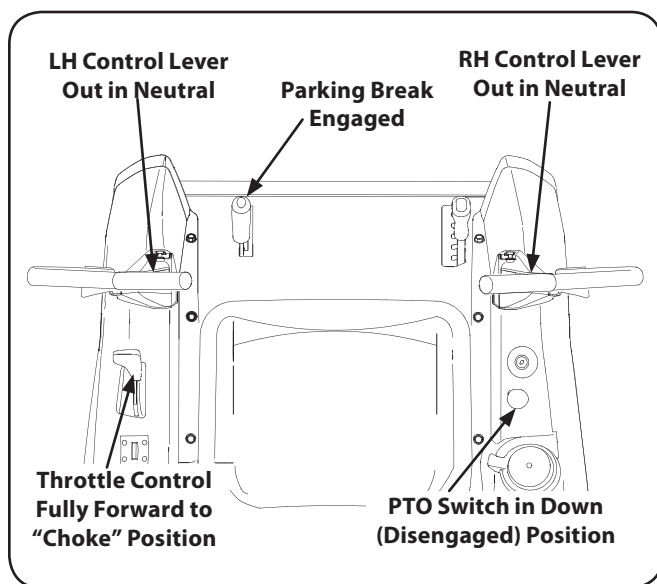

Figure 5-1
2. Engage the parking brake. Refer to Fig. 5-1.
3. Make certain the PTO switch is in the disengaged (down) position. Refer to Fig. 5-1.